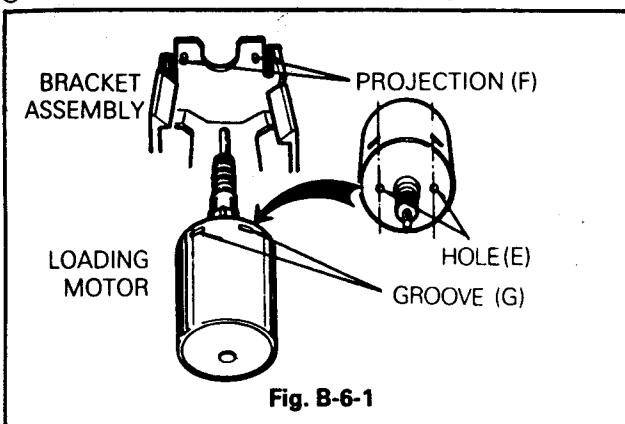

Fig. B-6-1
## 6. Loading Motor Assembly(Fig. B-6-1, B-6-2)
① Make sure that the worm assembly is seated in the axis of Loading Motor.
② Two grooves(G) of Loading Motor should be turned up and two projections(F) of Bracket Assembly should be seated in each at the two holes(E)(Fig. B-6-1).
③ Take notice of the polarity of the Loading Motor.